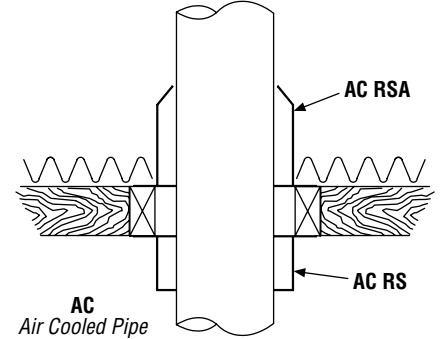

**Figure 19**
Cut and frame square holes in all floors and the roof to provide a 2" (50mm) clearance between the chimney and any combustible materials. Do not fill this 2" (50mm) space with any material (see **Figure 19**).
1. Cut and frame the holes in the ceiling, floor and roof where the chimney will pass (see **Figure 19**). Use a plumb-bob to line up the center of the holes. The hole sizes are indicated in **Table 3** for the floor and ceiling holes and in **Table 4 (Page 17)** for the roof holes.